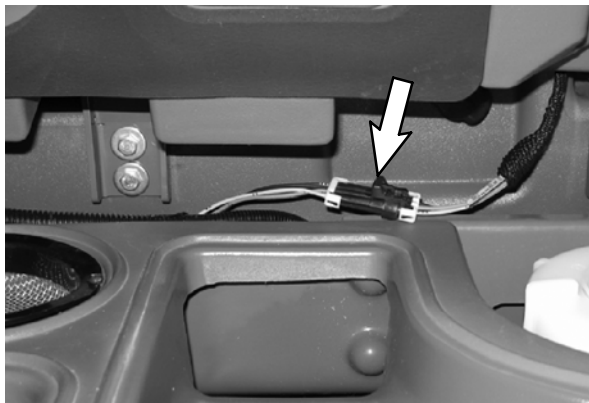
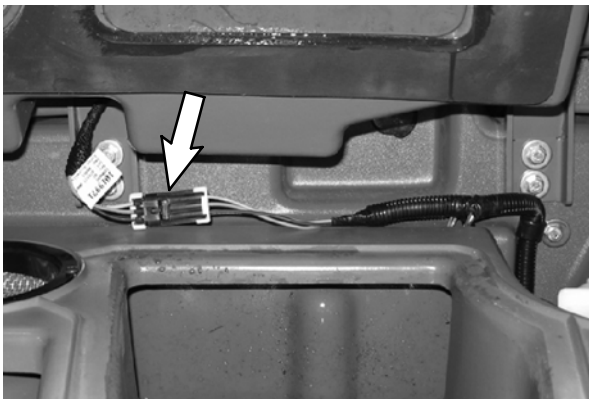
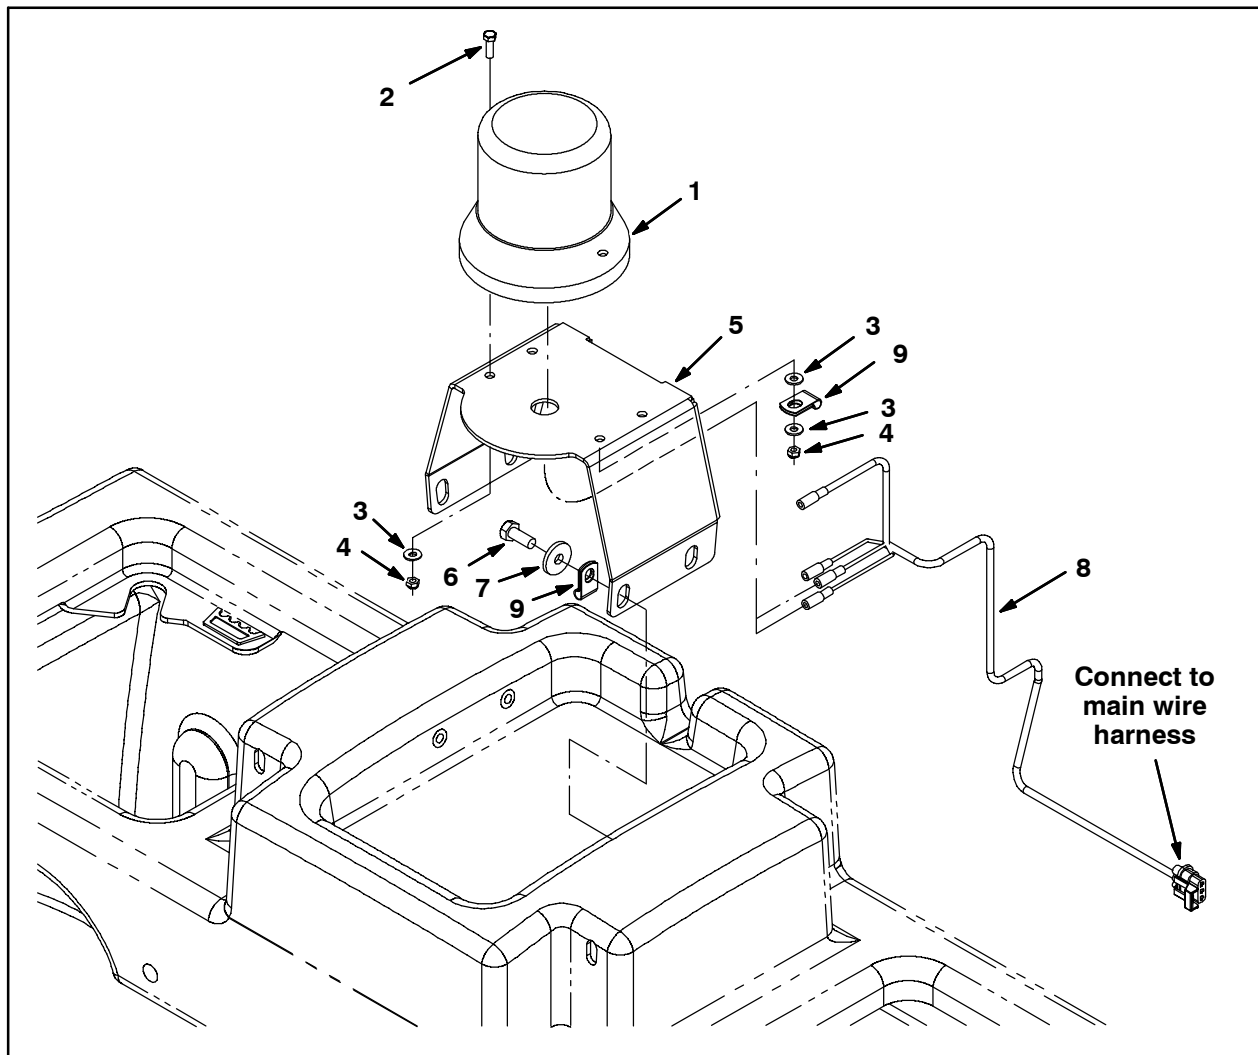
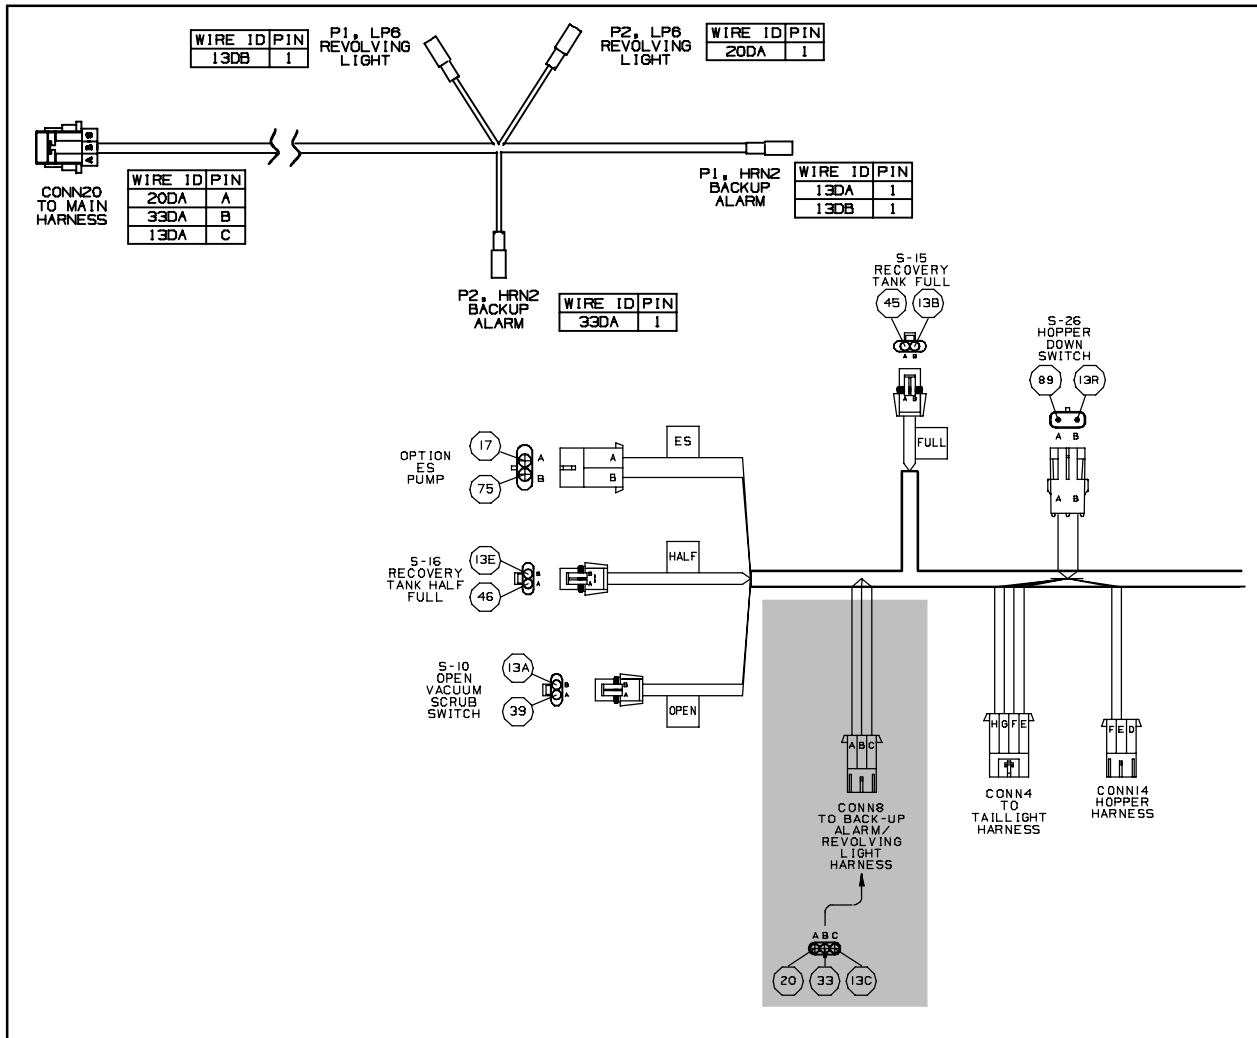

FIG. 3 - M20 Harness Location
FIG. 4 - T20 Harness Location
FIG. 8
FIG. 9
- Open the recovery tank cover and pull the main wire harness backup alarm and revolving light connector from between the recovery and solution tank. Connect the warning/backup harness (8) to the main wire harness. Refer to Fig. 3 or Fig. 4, and Fig. 9.
7. Connect the warning/backup harness (8) to the light (1). Refer to Fig. 8 and Fig. 9.
9. Slide the main wire harness backup alarm and revolving light connector and attached connector from the warning/backup harness (8) back down between the recovery and solution tank and close the recovery tank cover. Refer to Fig. 3 or Fig. 4.